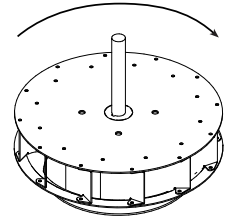

Figure 14
3. Check wheel rotation (viewing from the shaft side) by momentarily energizing the unit. Rotation should be clockwise as shown in Figure 14 and correspond to the rotation decal on the unit. If wheel rotation is incorrect, reverse two of the wiring leads or check motor wiring for single phase. Fan RPM should be checked and verified with a tachometer.
3. Start the fan and shut it off immediately to check rotation of the wheel with directional arrow in the motor compartment, reference Figure 14.